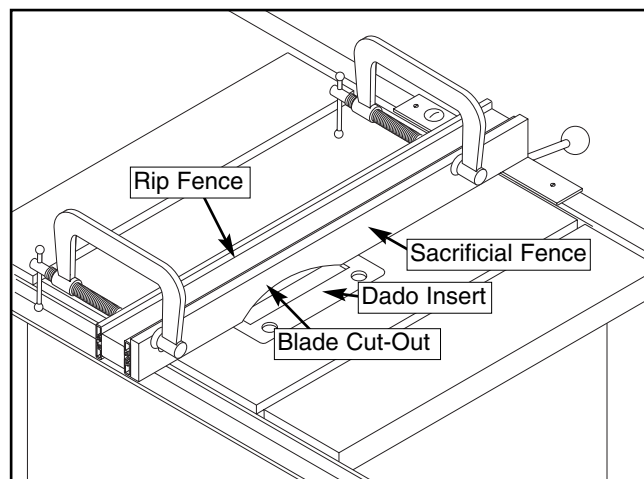

Figure 58. Sacrificial fence.
1. Rabbet cutting on the edge of a piece of stock requires the use of a sacrificial fence attachment as shown in **Figure 58**. The sacrificial fence can be made from a piece of wood that is as long as the metal fence and $\frac{3}{4}$ " thick. Once the sacrificial fence has been cut, attach it to the metal fence with screws or clamps, making sure they are all secure and tight.